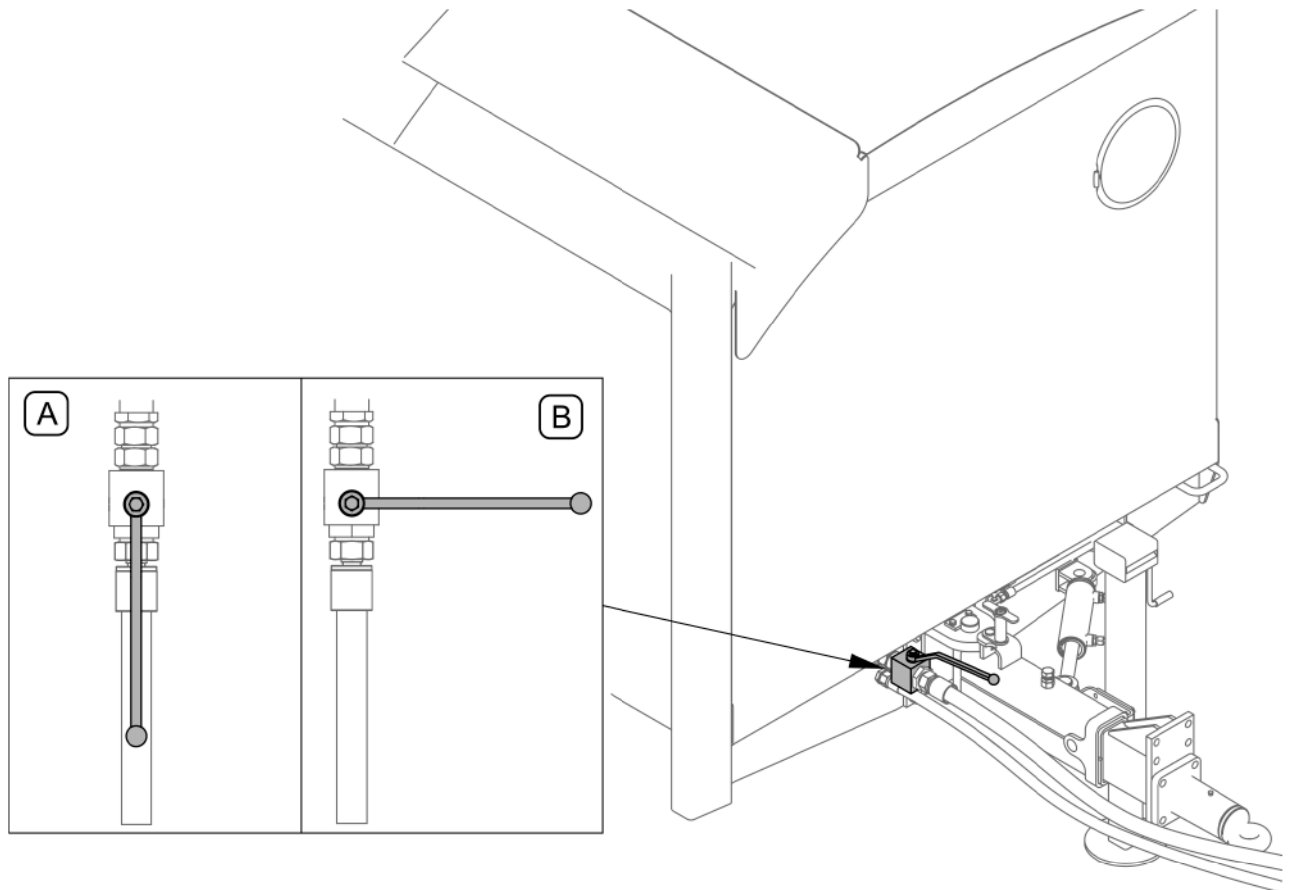

FIG. 4.8 **Hydraulic system valve**
- Make sure that the hydraulic system valve is open (FIG. 4.8)
Before starting the machine make sure that the hydraulic system valve (FIG. 4.8) is open (position A). The valve should be closed only in order to replace supply pump, hydraulic intensifier or hydraulic conduits.
During operation of the sweeper, the valve on the hydraulic supply conduit should be open (FIG. 4.8).